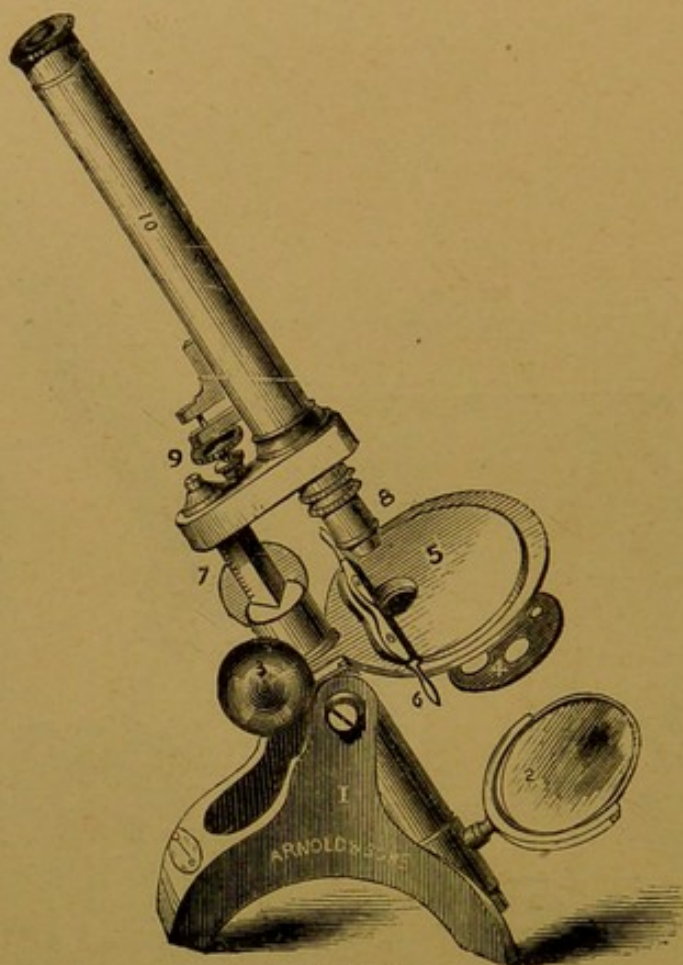

Fig. 351.
- No. 5. Microscope (Professor Axe's), with circular stage, by which means the object is easily and steadily moved in any direction, rack-work and fine adjustment, fitted with c eye-piece, and $\frac{1}{5}$ -th and 1-inch best English achromatic objectives, complete, in mahogany cabinet, Fig. 351 £6 0 0